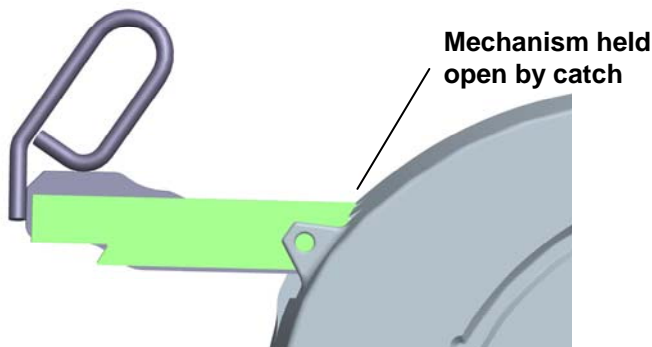

FIGURE 6
3. Depress the push button energizing air cylinder. The cylinder extends causing the release handle to unlock Fifth Wheel (see figure 6).
Note: The air cylinder will retract after releasing the push button and the mechanism will be held in the open position by a catch on the release handle until the kingpin is removed from the fifth wheel (see figure 6).